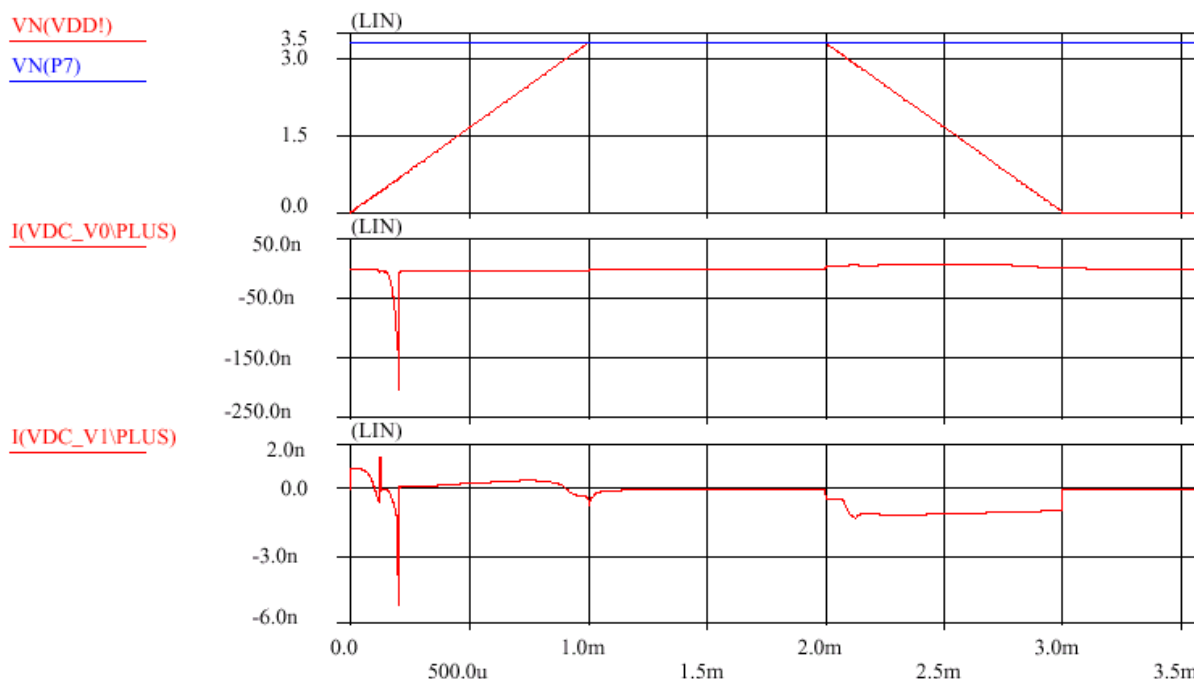

Fig 24. PCA9501 - I/O current during power cycle
**Answer:** There is no problem using the device in this configuration as it can be seen in the simulation waveforms (Figure 24). The graph is the output pin (P7) that is held at 3.3 V,  $V_{DD}$  that is ramped from 0 V to 3.3 V and back to 0 V, and the current from the power-supply hooked up to the pin and internal  $V_{DD}$ . The scale is in the nA range. As you can see in the graph, the current is less than 5 nA. The current spike of 200 nA is due to the over-voltage protection switching from the internal voltage to the external pin voltage (P7) and is only temporary.